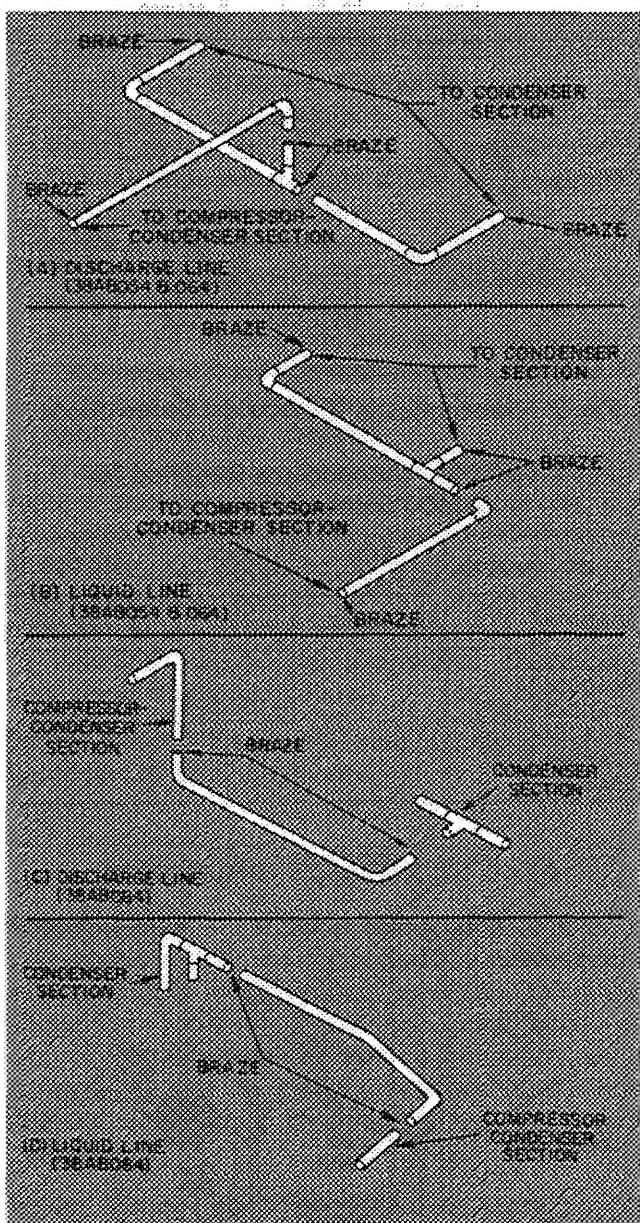

Fig. 5 — Refrigerant Connections
**Integrate Unit (38AB054,064 and 084 only)** — Connect refrigerant piping between the two sections, using materials furnished with unit. Arrange discharge and liquid lines as shown in Fig. 5 and braze as indicated.